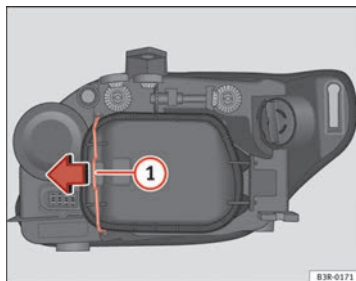

Fig. 196 Dipped beam headlights
Although it is not necessary, previously remove the rigid cover ⇒ Fig. 196 for easier turn signal bulb changes.
- Move the brace ⇒ Fig. 196 ① in the direction of the arrow and remove the rigid cover, separating the brace side and then removing the two tabs from the other end of the cover.